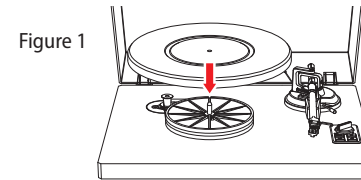

Figure 1
4. Carefully place the main platter onto the sub-platter (Figure 1).